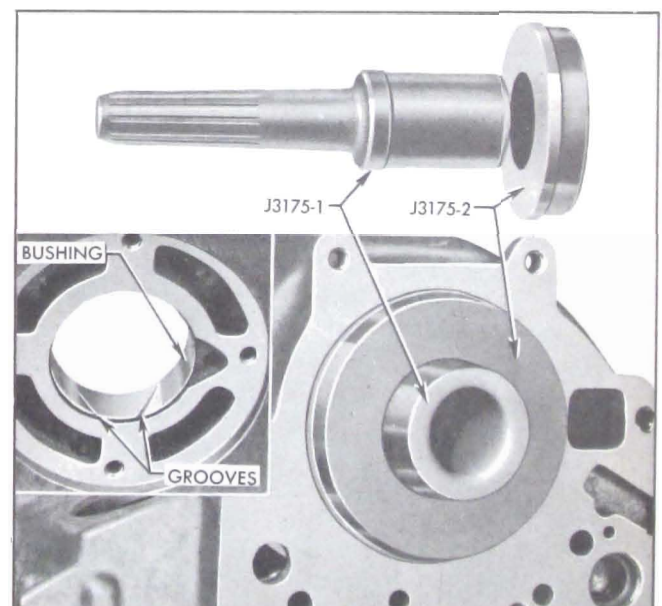

Figure 5-106—Transmission Case Bushing Remover and Replacer J-3175
5. To remove old bushing, place case over an opening with rear end down and drive bushing from case with Remover J-3175-1. To install new bushing place J-3175-2 in rear oil pump recess of case to serve as a pilot, slip bushing over J-3175-1 and drive bushing into case from front side until bushing is flush with front surface of wall which supports the bushing. Bushing must be installed with the wide deep ends of oil grooves toward rear side of case. See Figure 5-106.